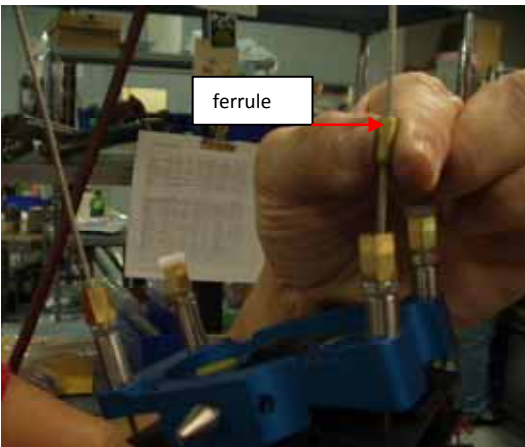

Figure 45 - Damper Cable Ferrule Installation
11. Feed one #9005133 ferrule onto end of rear damper cable (Figure 45).